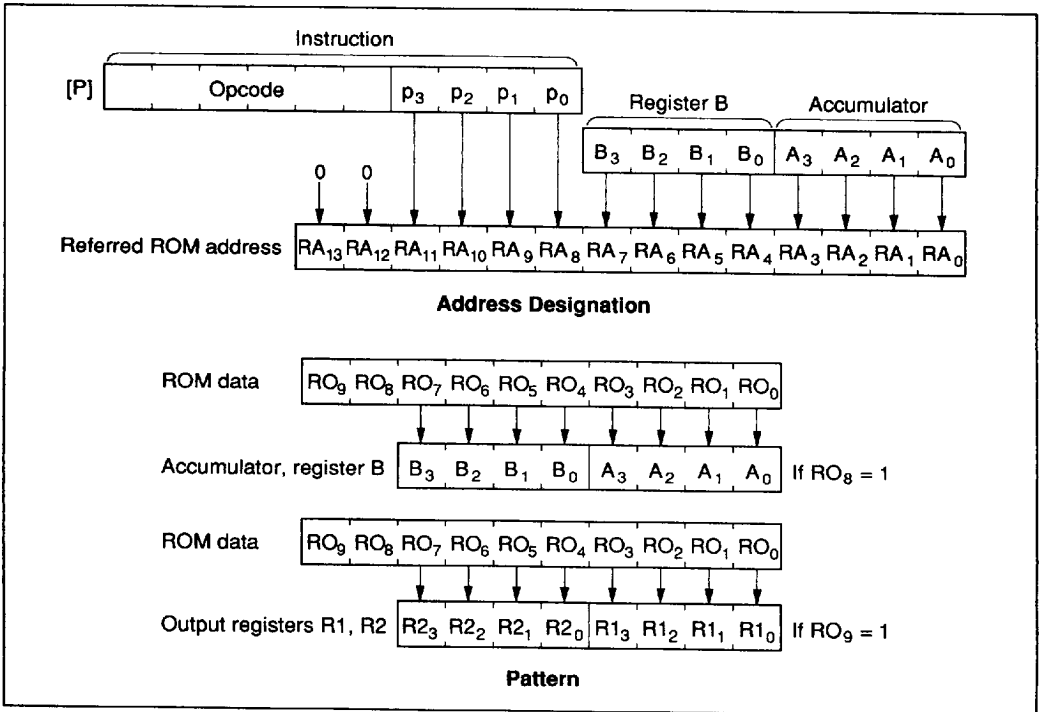

Figure 32 P Instruction
**P Instruction:** ROM data addressed by table data addressing can be referenced by the P instruction (figure 32). When bit 8 in the referred ROM data is 1, 8 bits of ROM data are written into the accumulator and B register. When bit 9 is 1, 8 bits of ROM data are written into the R1 and R2 port data registers. When both bits 8 and 9 are 1, ROM data are written into the accumulator and B register, and also to the R1 and R2 port data registers at the same time.